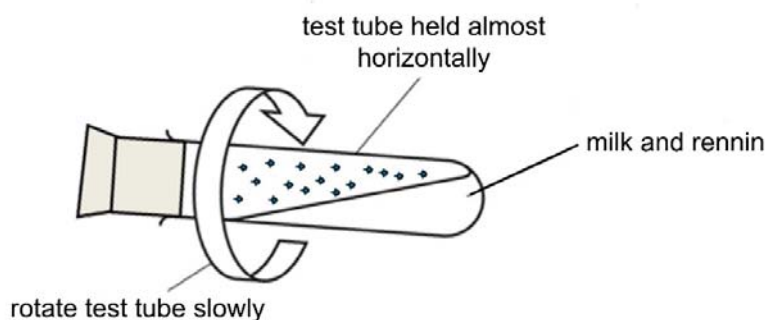

Fig. 1.2
8. Continue to rotate the tube and record the time taken for clotted milk particles to **first start to form** on the walls of the tube as shown in Fig. 1.2.